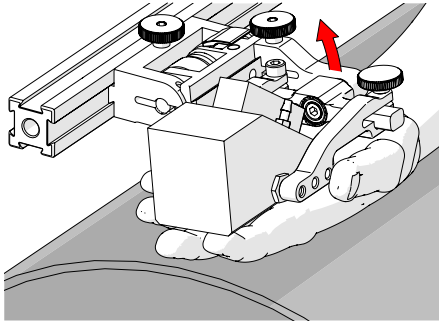

Fig. 137 - Lift to latched position
1. Ensure the probe holder is in the latched, upper position (Fig. 137). If the probe holder is already latched, it will only move within the slip joint adjustment range and have no spring tension.
1. Ensure the probe holder is in the upright latched position (Fig. 137).